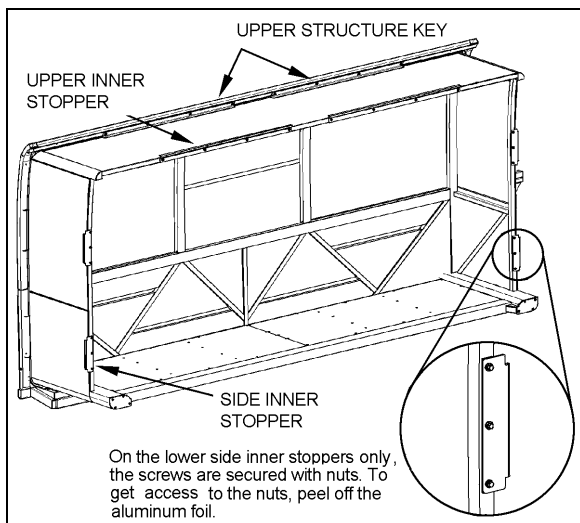
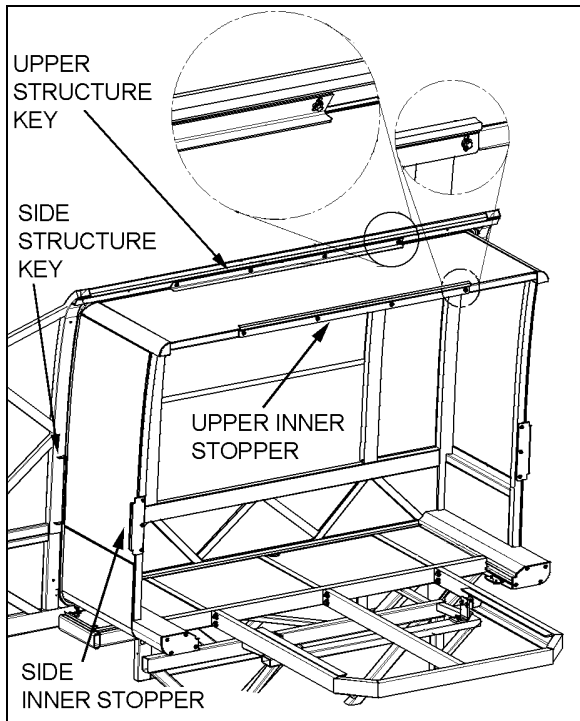

FIGURE 3: FRONT SLIDE-OUT
FIGURE 4: REAR SLIDE-OUT
The front slide-out is equipped with six inner stoppers laid out in the following way: two stoppers on the top horizontal member of the slide-out, and two stoppers on each vertical upright, while the rear slide-out is equipped with only three stoppers (Figure 3 & Figure 4). The upper inner stoppers are used to provide a support to position perpendicularly the slide-out with the vehicle structure.
The side inner stoppers are used to block the extension of the slide-out. They act as ultimate physical limits but take note that when the “out limit” sensors are properly adjusted, the slide-out extension stops before the side inner stoppers reach the side structure keys (Figure 3 & Figure 4).
2. Adjust the upper structure key and the upper inner stoppers according to Figure 4 with the seal deflated. When inflating, the seal presses the roof structure upward and at that moment, the upper inner stopper comes into contact with the upper structure key